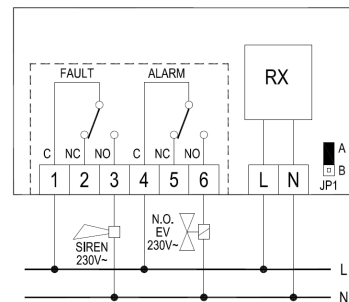

Fig. 9
- 7 Make electrical connections according to the wiring diagram in Fig. 9 and 10 and the paragraph "Electrical Connections".
Follow the connection layout shown in Fig. 9 or 10.
Figure 9 shows how to connect a normally open electrovalve (N.O.) that will be powered when the "alarm" output is activated, i.e. when the transmitter sends the "alarm" command to the receiver using the N.A. relay contact set with direct logic (JP1 jumper on position A).
Both figures 9 and 10 show how to connect an audible warning